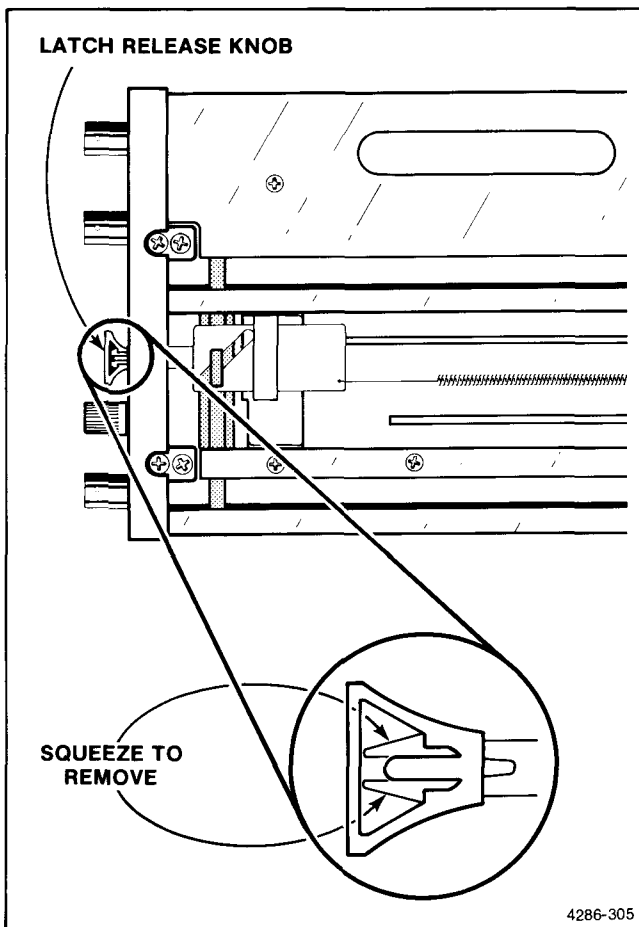

Figure 3-22. How to remove the latch-release knob.
1. Remove the latch release knob. See Figure 3-22.